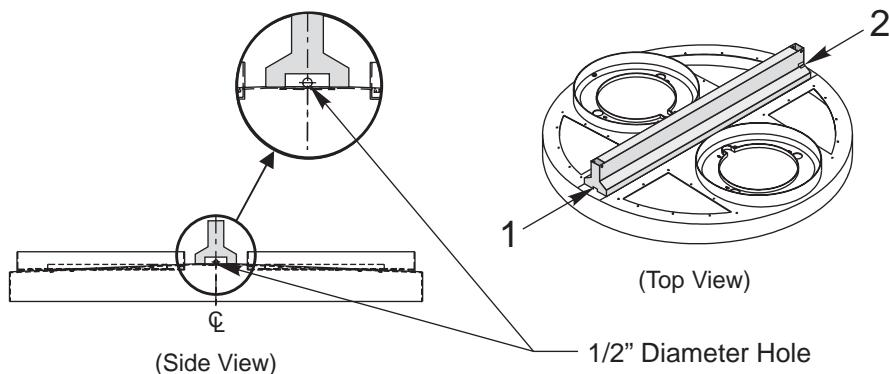

Figure 3.14-5
9. Drill a 1/2" diameter hole centered on the end of the door guide shroud on the Rotary Top Cover. The hole should be as close to the intersection of the bottom of the shroud and the top cover as possible, as shown in Figure 3.14-5.